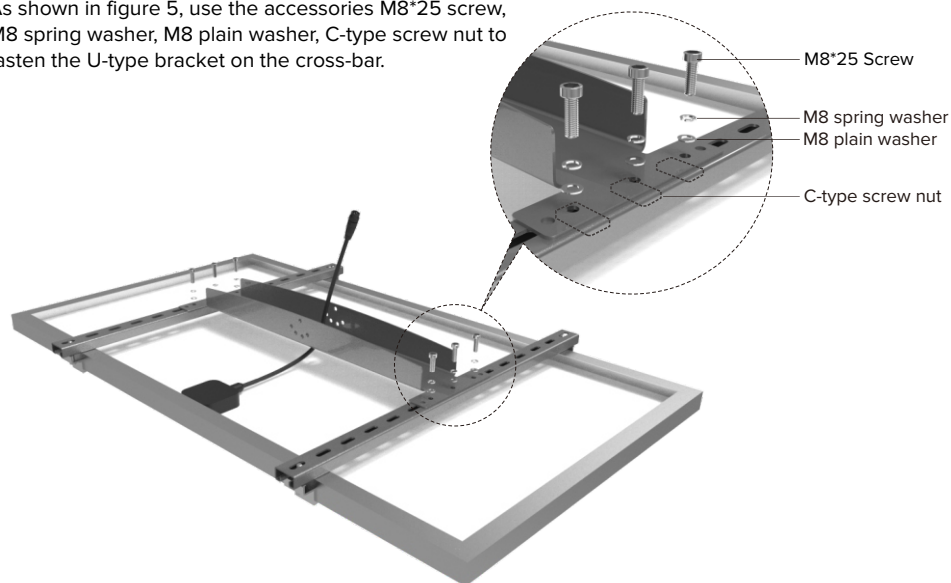

Figure 5
- 3 As shown in figure 5, use the accessories M8\*25 screw, M8 spring washer, M8 plain washer, C-type screw nut to fasten the U-type bracket on the cross-bar.